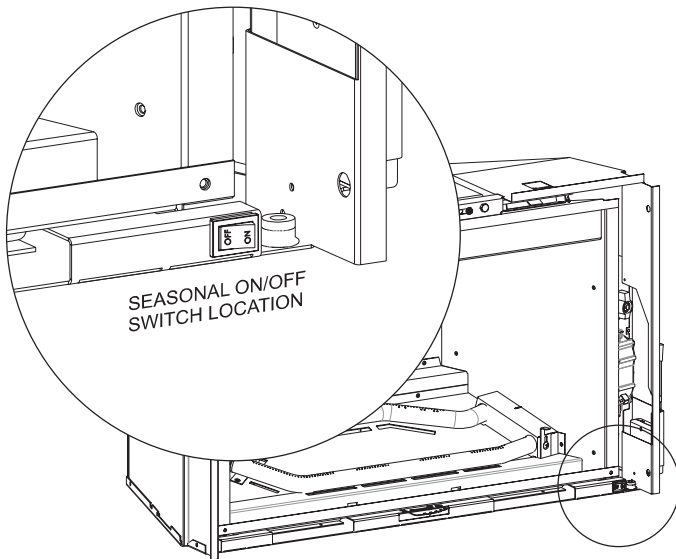

Figure 29
1. At the end of the heating season turn off the fireplace insert to prevent accidental starting. Remove the barrier screen and locate the switch at the lower right corner. Push the switch to the OFF position. **See Figure 29.** Replace the barrier screen.